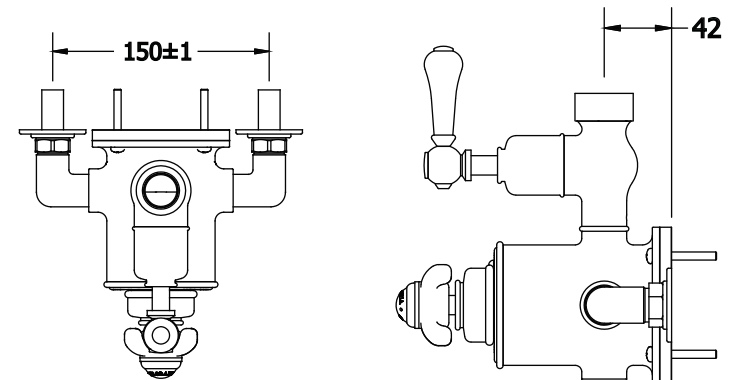

Fig. 3
- Use the washers, screws and sleeves provided to install the mixer into the wall as seen in Fig. 3;